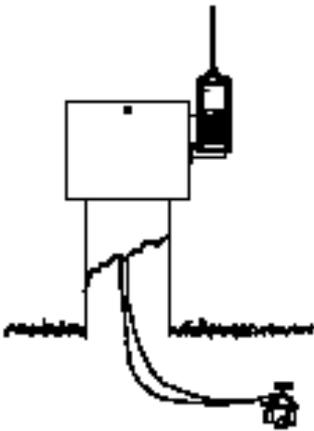

FIGURE 1
The housing can be mounted to the right side of the irrigation controller (Figure 1) or mounted to a wall (Figure 2)
Plug the receiver directly in the connector as shown in figure 1. When the receiver is not in use, close and secure the housing door (4) by tightening the Allen head screw with a 3-32" Allen wrench. **IMPORTANT:** Do not over torque the Allen head screw, it should be snug.